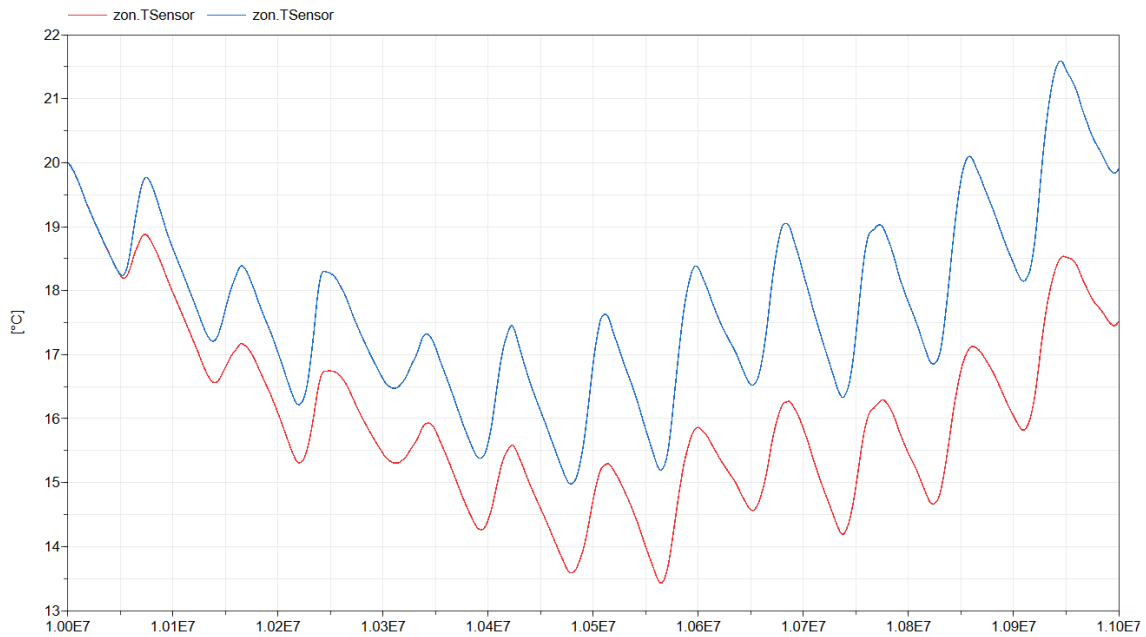

Figure 2: Zone temperature without (blue) and with (red) screen model.
**Reference result** The result with and without the shading model is plotted in Figure 2.